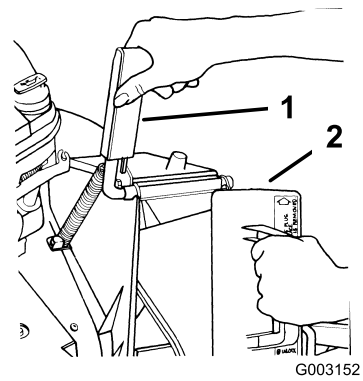

Figure 6
1. Open the discharge door by pulling forward on the handle and moving it rearward (Figure 6). Hold the discharge door handle to prevent the spring-loaded door from closing while you insert the plug.
2. Since the plug is slightly wider than the discharge tunnel opening, rotate the plug clockwise slightly while inserting it (Figure 6).